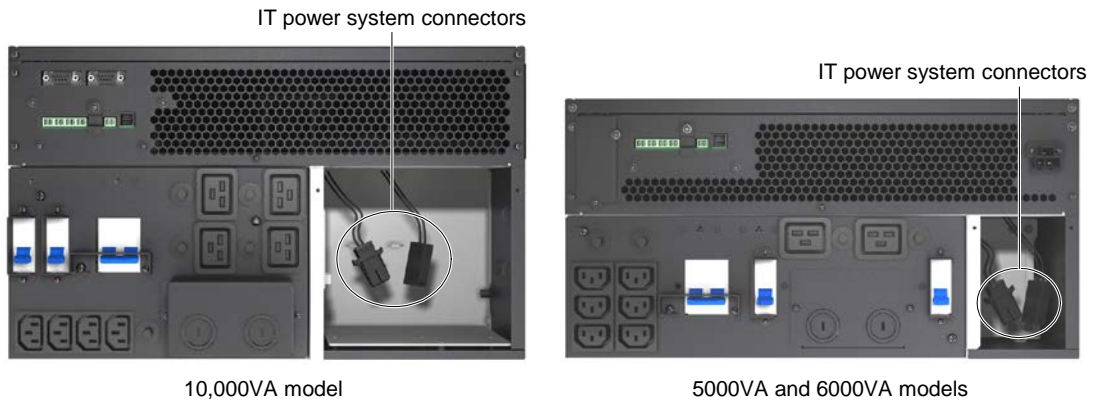

Figure 8-2 Disconnecting the connectors
2. Disconnect the connectors, as shown in Figure 8-2.